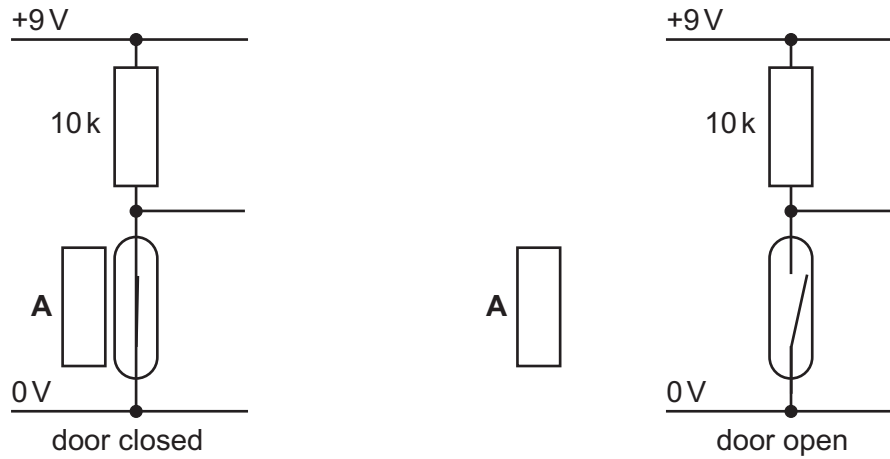

Fig. 12.3
- (b) A burglar alarm in a house uses reed switch sensors on the doors. Fig. 12.3 shows how one of the reed switch sensors is connected.